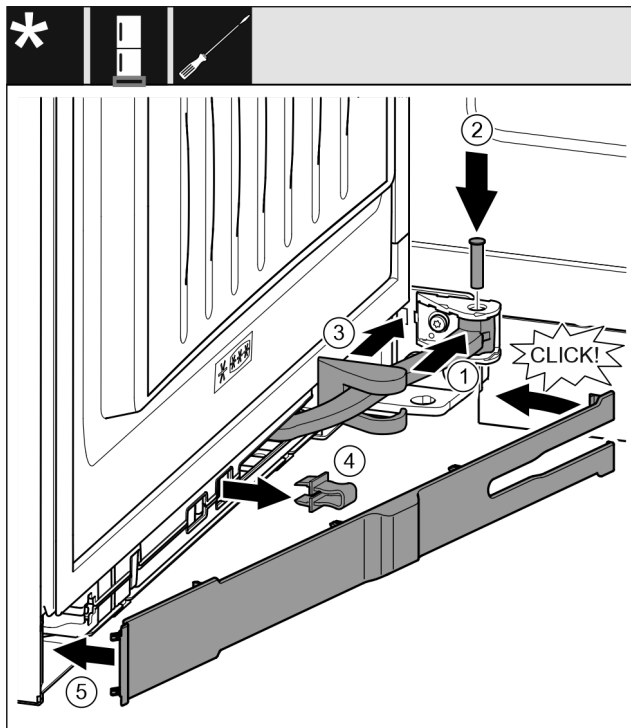

Fig. 46
- Turn the joint Fig. 46 (1) in the hinged suspension.
- Use a screwdriver to insert the pin Fig. 46 (2) into the hinged suspension and joint. In the process, make sure that the latching cam is correctly positioned in the groove.
- Slide the swap bearing block cover Fig. 46 (3) along the joint and install it above the hinged suspension.
- Remove the locking device Fig. 46 (4).
- Attach the panel Fig. 46 (5) from the handle side and swivel it on.